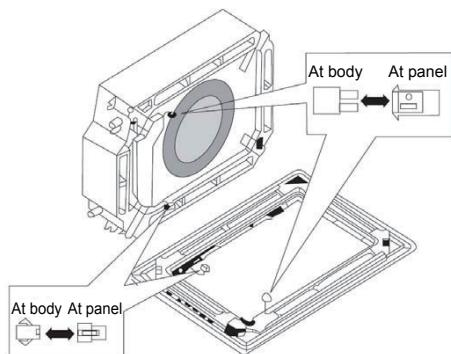

Fig.11.16
- 4). Connect the joints for swing flap motor lead wire (at 2 places) installed on the panel (Refer to Fig.11.16).